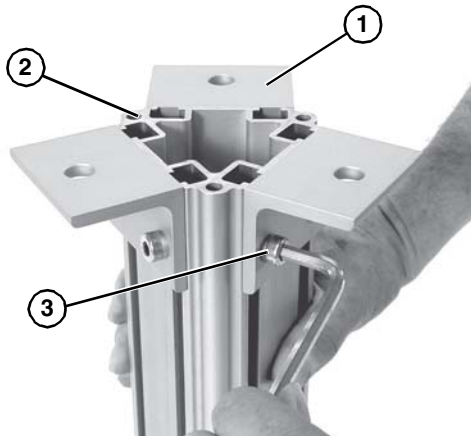

Figure 13
- Align the foot bracket edge (**Figure 13, item 1**) with the bottom edge of the trileg post (**Figure 13, item 2**).
<p>Failure to secure screws (Figure 13, item 3) may cause conveyor sections to drop down, causing severe injury.</p> <p>TIGHTEN ALL SCREWS (Figure 13, item 3) AFTER ADJUSTMENT.</p>
- Tighten socket screws (**Figure 13, item 3**) to 100 in-lb (11 N-m)